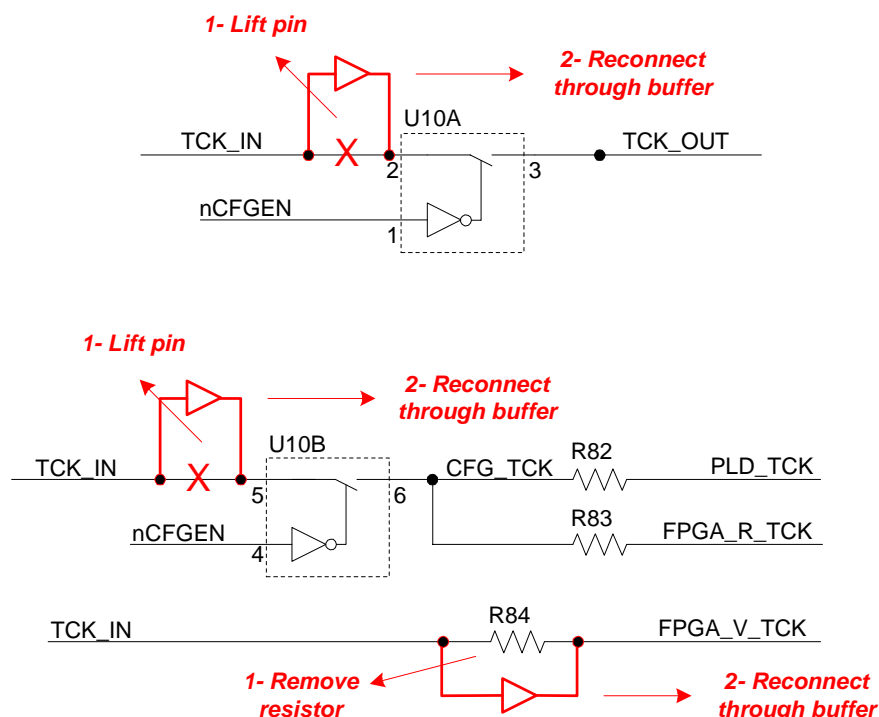

Figure 2: Board changes for more than two Altera Logic Modules
- More than two Logic Modules: the quality of the TCK signal needs to be improved by placing a buffer on each branch of the TCK tree (see Figure 2). The steps to do this are: